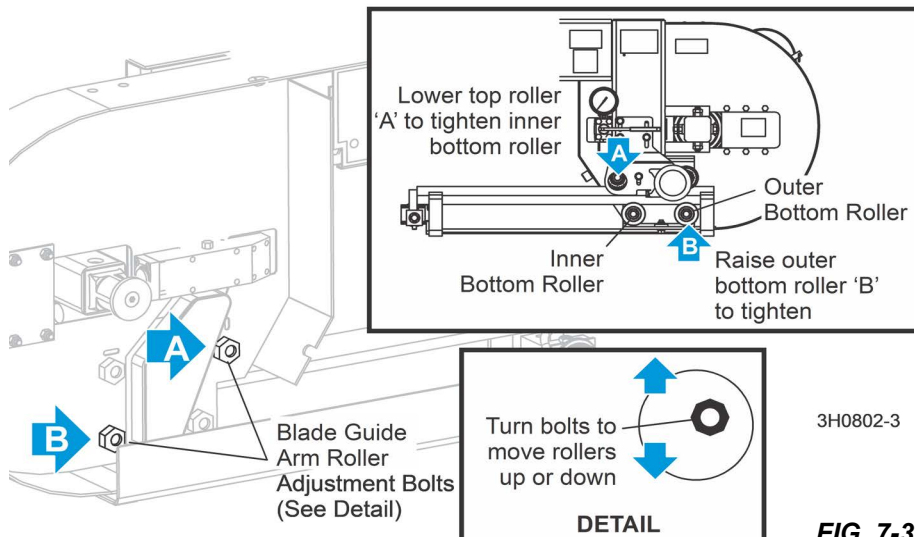

FIG. 7-3
6. If the outer lower roller is loose, adjust the outer lower roller up. See FIG. 7-3.